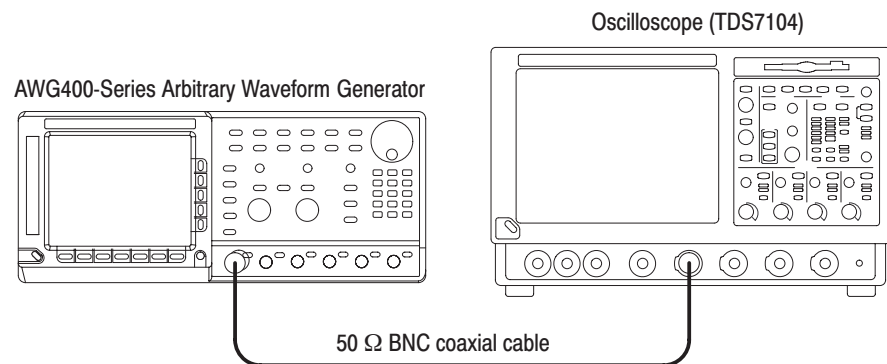

Figure 4-29: Event input and enhanced mode initial test hookup
- a. Use a 50 Ω BNC coaxial cable to connect the AWG400-Series **CH1** output connector to the oscilloscope CH1 input connector (see Figure 4-29).